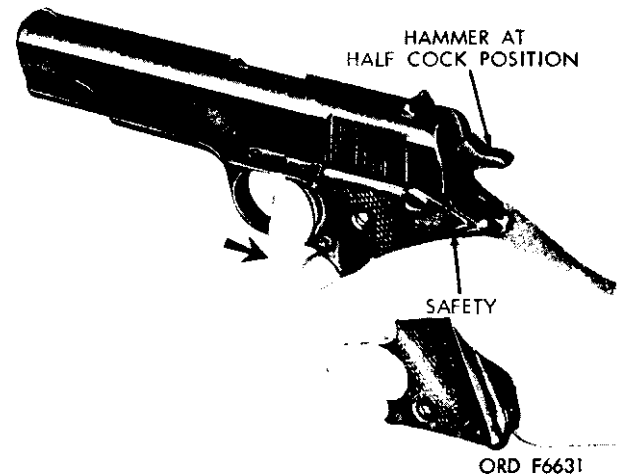

Figure 13. Half-cock position test (1 of 2).
- (3) **Half-cock position test (fig. 13 and 14).** With the pistol unloaded, draw